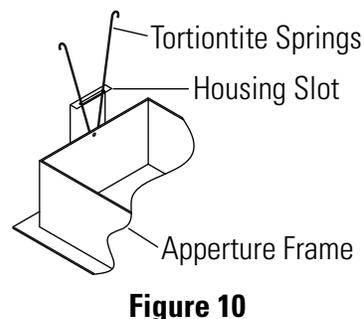

Figure 10
- B. Push Aperture Frame upward. (Fig. 10)